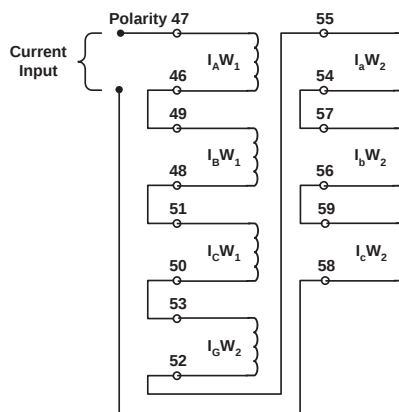

Figure 6-8 Current Calibration Configuration
4. Connect all current inputs in series ($I_A W_1 = I_B W_1 = I_C W_1 = I_N W_2 = I_a W_2 = I_b W_2 = I_c W_2$) and apply 5.00 (± 0.01) Amps $\angle 0^\circ$. See Figure 6-8. For 1 Amp CT models, use 1.0 (± 0.01) Amps $\angle 0^\circ$.
2. Refer to Figure 6-8 and place unit in calibrate mode by configuring the proper dip switches.